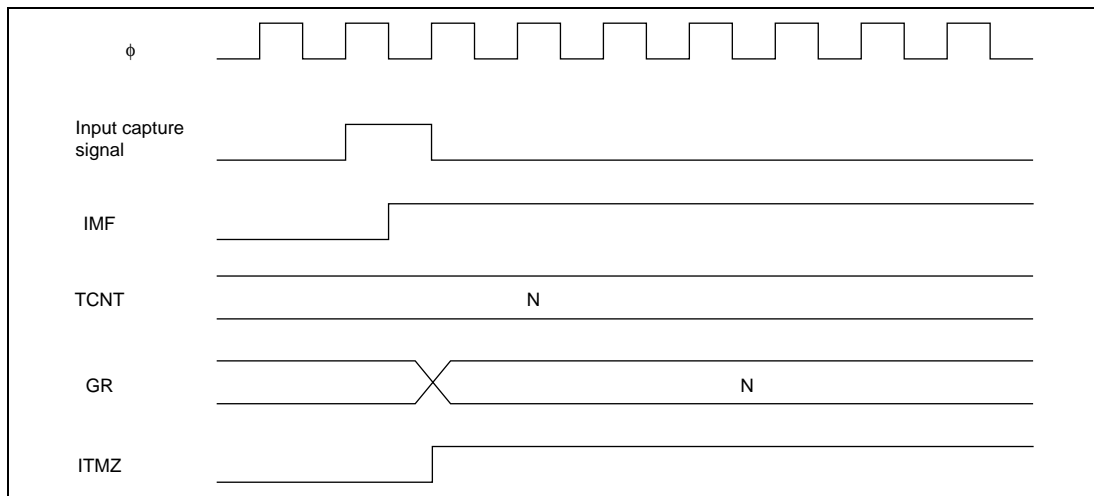

Figure 13.49 IMF Flag Set Timing at Input Capture
2. **IMF Flag Set Timing at Input Capture:** When an input capture signal is generated, the IMF flag is set to 1 and the value of TCNT is simultaneously transferred to corresponding GR. Figure 13.49 shows the timing.